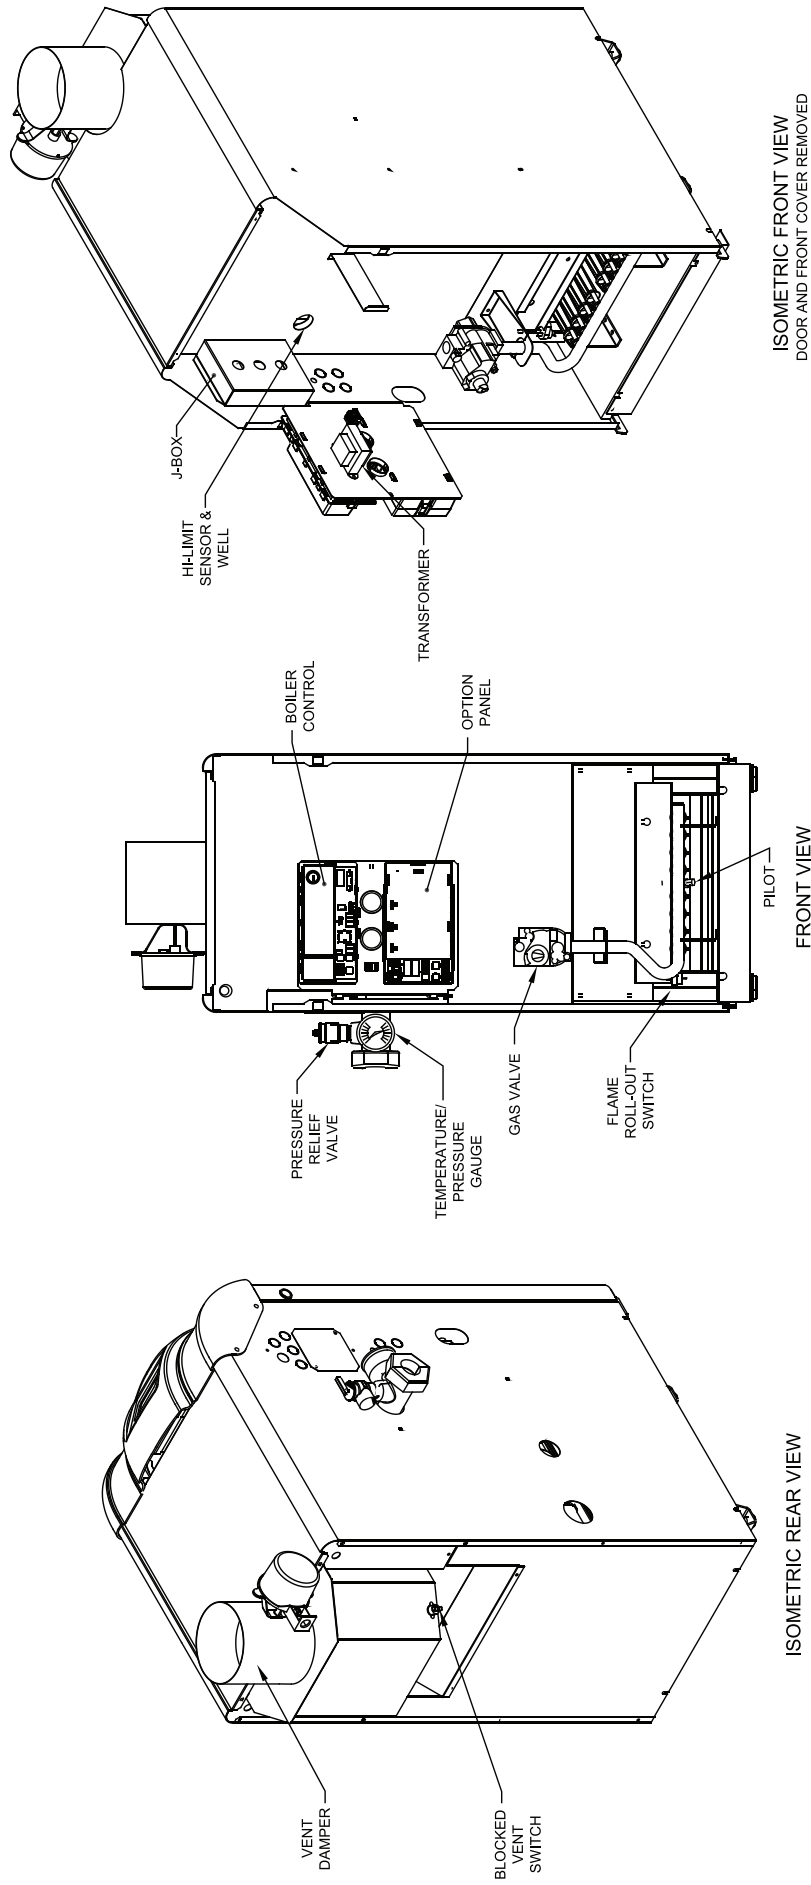

Figure 1: Control Locations
1. **Limit.** See Figure 1. A device which automatically interrupts boiler operation when the water temperature exceeds the set point. Maximum allowable temperature is 220°F.
2. **Flame Rollout Switch.** See Figure 1. A device which automatically interrupts boiler operation when flames or excessive heat are present in the combustion area enclosure. The control is a single use device. The control is located in the combustion area enclosure. If the control was activated to interrupt boiler operation, do not attempt to place boiler in operation. Contact a qualified service agency.
3. **Blocked Vent Switch** See Figure 1. A device which automatically interrupts boiler operation when excessive vent system blockage occurs. If the control was activated to interrupt boiler operation, do not attempt to place boiler in operation. Contact a qualified service agency.
4. **Electronic Ignition System** - see Figure 1. The Electronic Ignition (EI) System consists of:
2. View flames through burner access panel. See Figure 1.